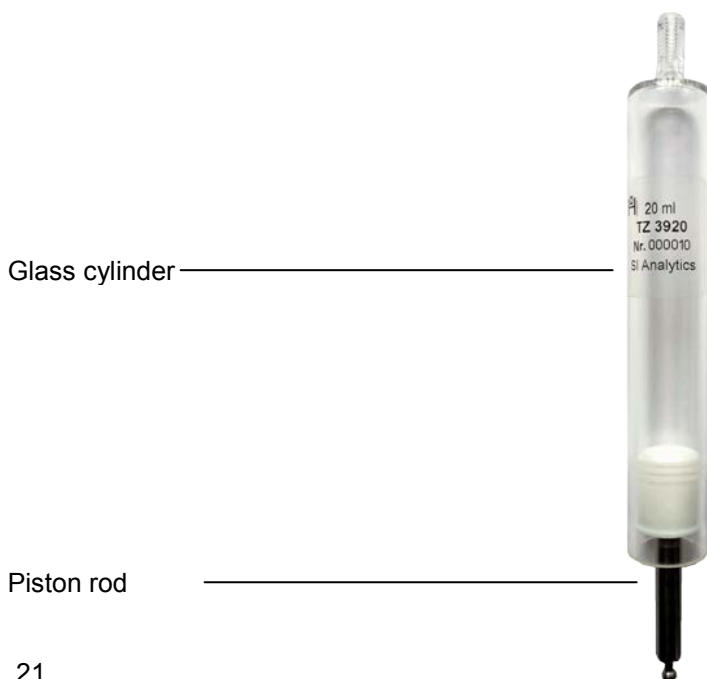

Fig. 21
- Insert a new glass cylinder and piston (Fig. 21) into the interchangeable unit, and then slip on the blue UV protection again.